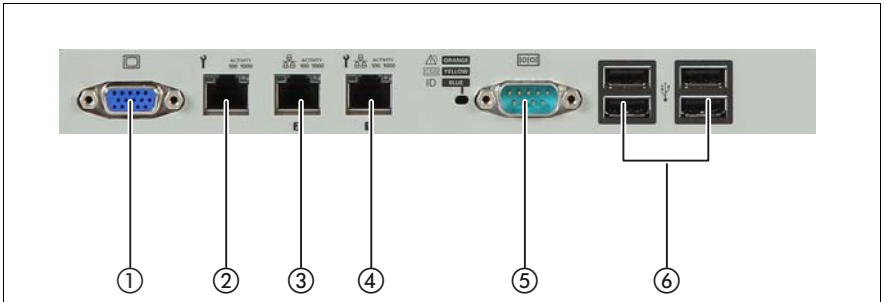

Figure 2: Connection panel on the rear
- ▶ Connect the monitor, keyboard and mouse to the standard connectors of the server (see table and figure 2 on page 55).